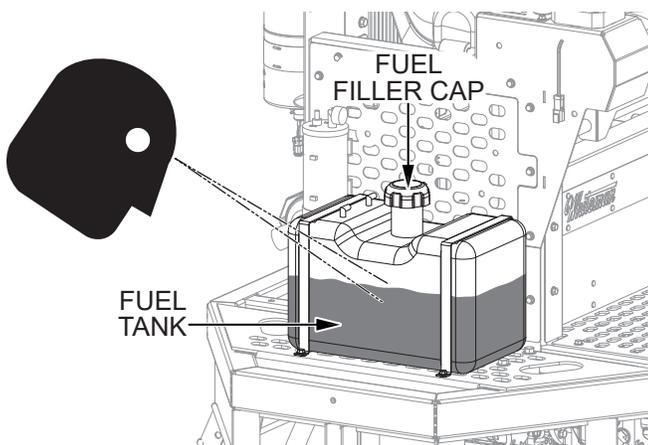

Figure 18. Fuel Level Inspection
2. Visually inspect the fuel level in the tank (Figure 18).
3. If fuel is low, remove the fuel filler cap (Figure 18) and fill the tank with unleaded 87 or 89 octane gasoline. **DO NOT** overfill. The fuel tank holds 4 gallons (15 liters) of gasoline.